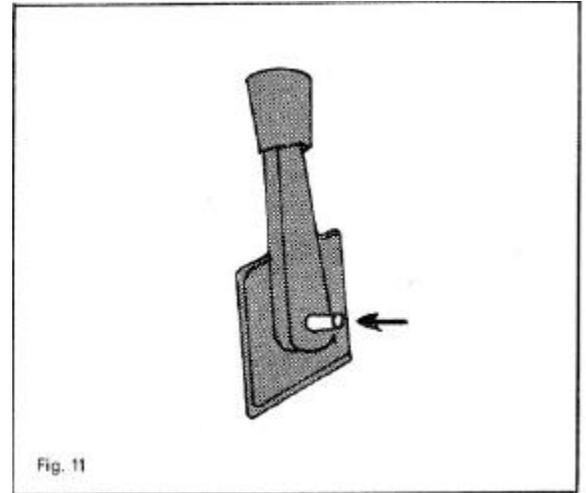

Fig. 11
- Ensure that the gear lever is in neutral by bringing it from a vertical position 20' backwards pressing on the button at the same time (fig. 11).